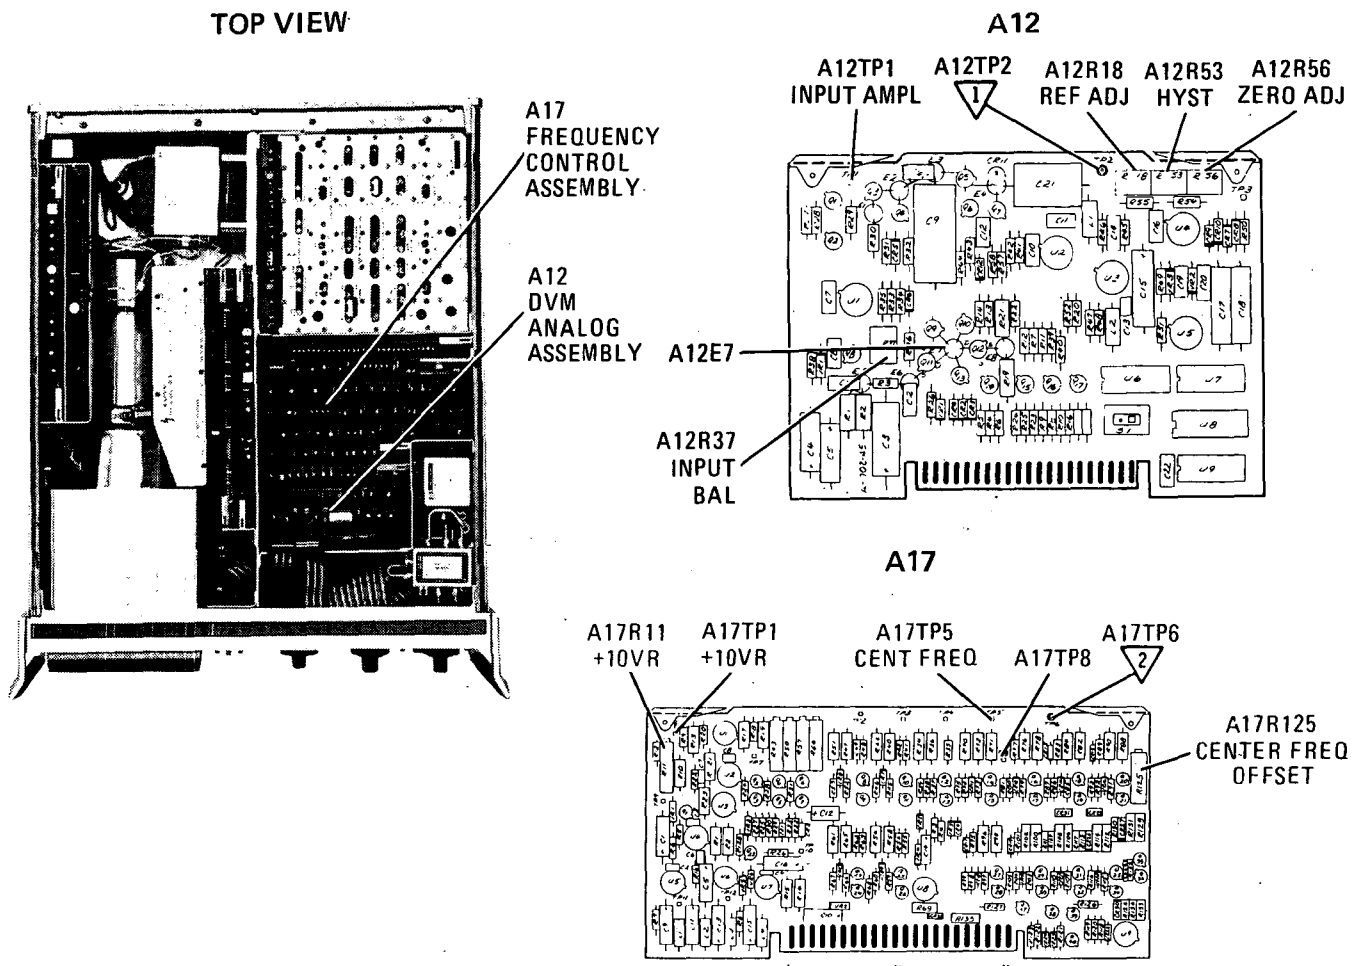

Figure 5-28. +10V Reference and Digital Readout Adjustment Locations
3. Connect digital voltmeter to A17TP1 +10VR and adjust A17R11 +10VR (Figure 5-28) for +10.000 $\pm$ 0.0002V. If unable to adjust A17R11 for +10V, change factory-selected resistor A17R9*. Decrease in A17R9* decreases voltage.